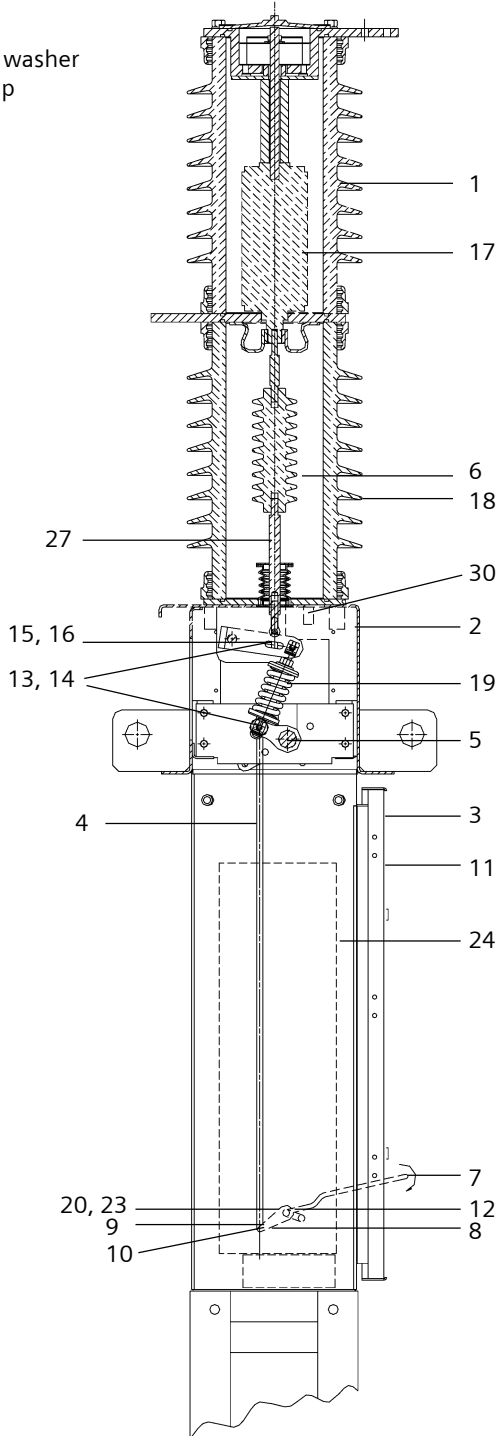

Fig. 7. Cross section of interrupter assembly, base frame and operating mechanism
3.1 Construction (Figs.: 7, 10 & 11)
Pole assembly: (Fig. 7)
The vacuum interrupter is mounted in a porcelain insulator to form an interrupter assembly (P-1, Fig. 7). An interrupter assembly & a support insulator assembly form a sealed pole assembly.
Three such assemblies are mounted on a base frame (P-2, Fig. 7) which has a common operating shaft. This assembly is mounted on an operating mechanism housing (P-3, Fig. 7). This is in turn assembled on steel structure so as to locate the line terminals at a safe distance above the ground. The energy storing mechanism and all the control and actuating devices are installed in operating mechanism housing. The breaker can be electrically operated from control room or by hand locally.
When a closing command is initiated, the closing spring (P-12, Fig. 11) which was previously charged (by hand or by the motor), actuates the moving contact through the drive shaft (P-20, Fig. 7), pull rod (P-4, Fig. 7), switching shaft (P-5, Fig. 7) and switching rod (P-6, Fig. 7).
During closing, the tripping spring (P-13, Fig. 11) and the contact pressure springs (P-19, Fig. 7) are charged. The closing spring of motor operated breaker is recharged (within 15 seconds) after CB is closed.